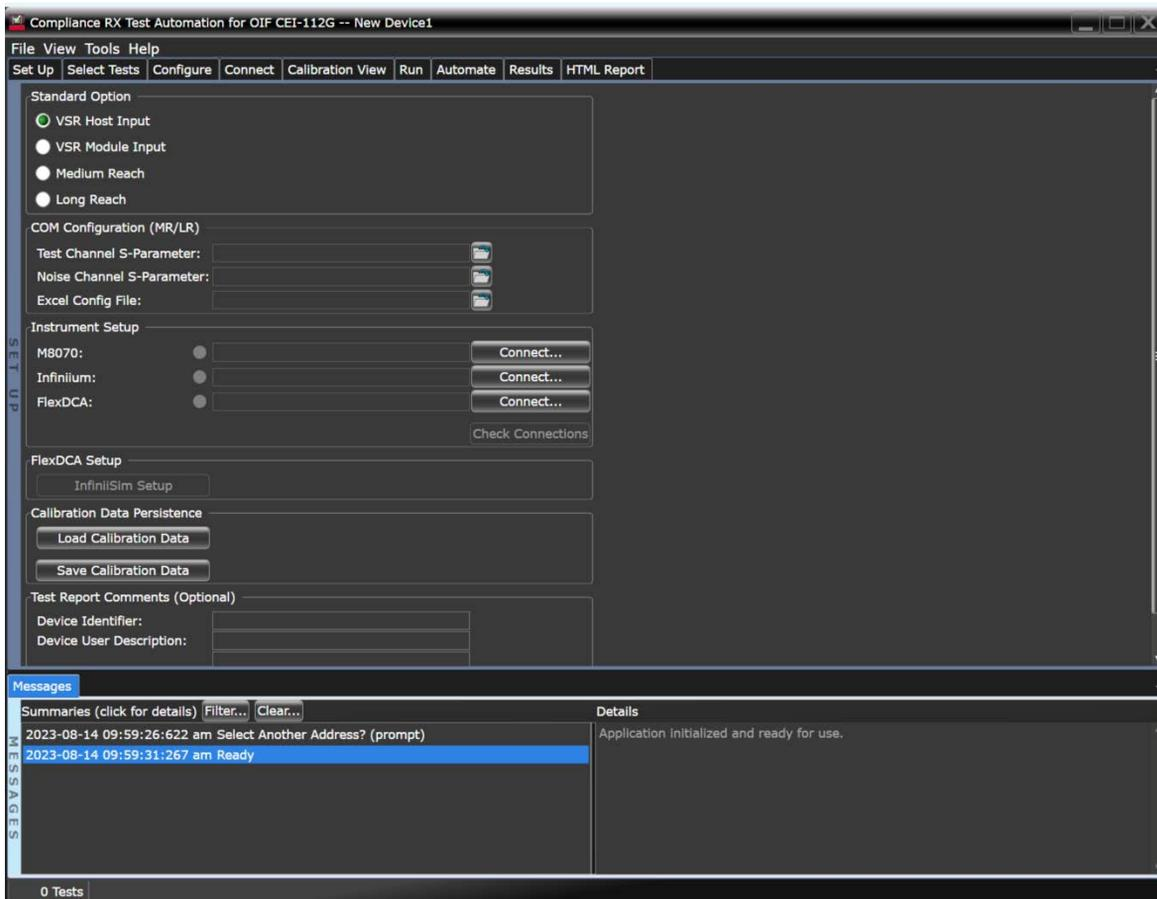

Figure 15 Default view of the OIF-CEI-112G Rx Test App
- The OIF-CEI-112G Rx Test Application appears with the **Set Up** tab as default (Figure 15).